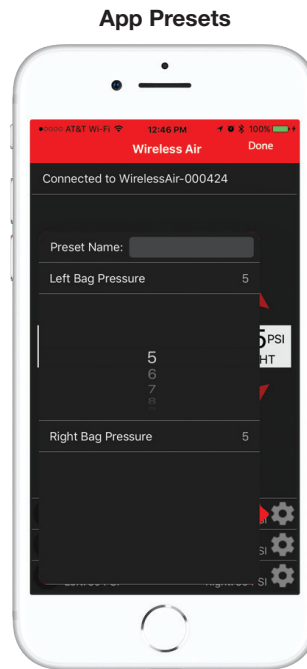

fig. D.5
1. The app must be connected to the manifold to change presets (Fig. D.5). Presets are stored on the manifold.